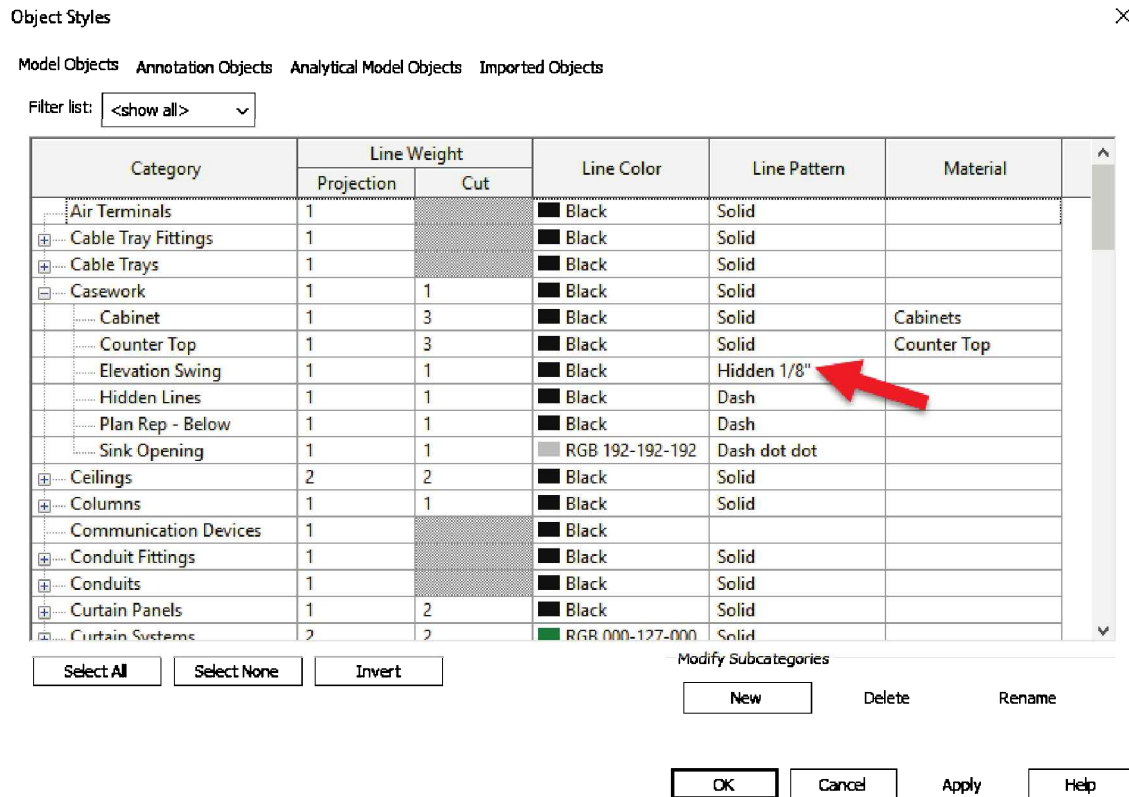

FIGURE 11-2.8 Object Styles dialog; Casework → Elevation Swing → Line Pattern changed
20. On the *Model* tab, expand the **Casework** section (Figure 11-2.8).
21. Change the *Line Pattern* for Elevation Swing (sub-category) to **Hidden 1/8"** (Figure 11-2.8).
Your angled lines should now be dashed (Figure 11-2.8). Setting up line weights and patterns in the *Object Styles* dialog is an important step in setting up an office template. Do not forget about the “Show categories from all disciplines” check box to see everything when needed.